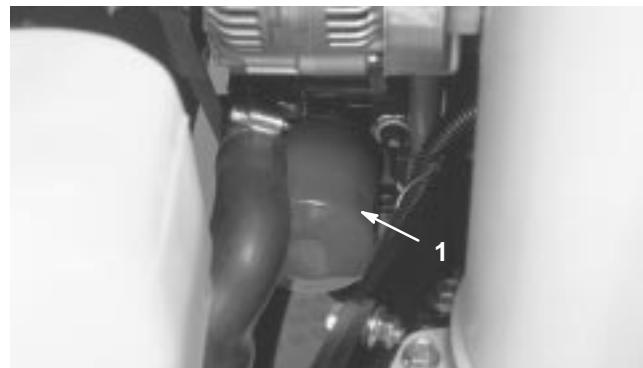

Figure 43
- Remove the oil filter (Fig. 43). Apply a light coat of clean oil to the new filter seal before screwing it on. **Do not overtighten.**